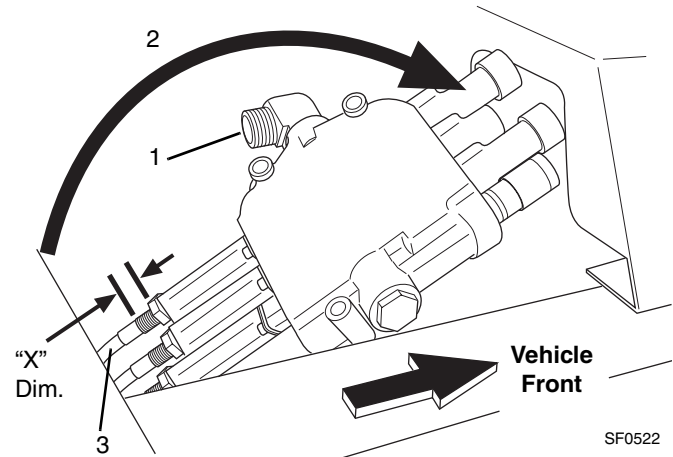

Figure 7-69 Main Control Valve Removal
5. Remove the hose from the elbow fitting (Fig. 7-69, 1) on the left side of the main control valve. Cap the fitting and plug the hose end to prevent contamination from entering the valve and/or hydraulic system.
6. Remove the three capscrews holding the valve to the crossmember, saving the hardware for reassembly. Carefully pull the valve, with the control cables attached, up and away from the crossmember and lay forward (Fig. 7-69, 2).
7. Before disconnecting the inner cable (Fig. 7-69, 3), measure the length of the exposed threads ("X" Dimension) on the cable housing to the first jam nut. Record this measurement for reference during cable installation.